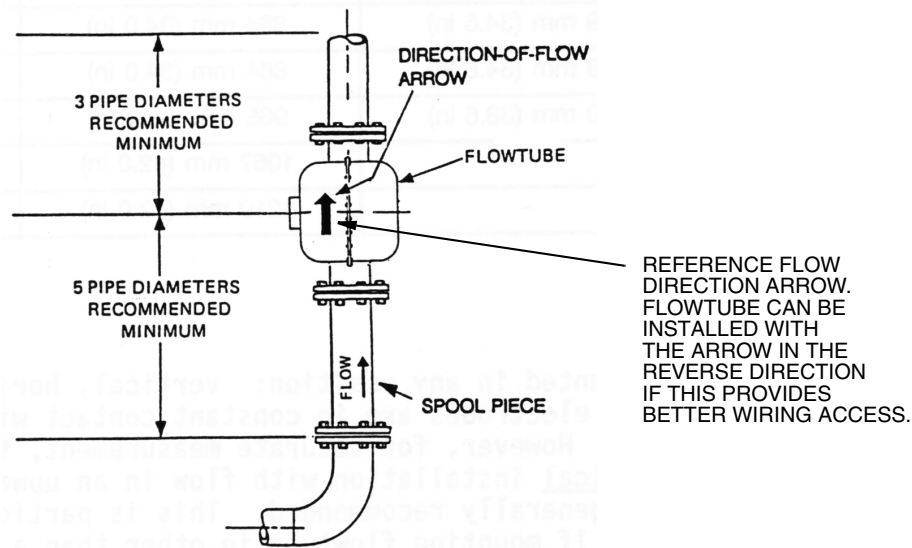

Figure 6. Flanged Body Flowmeter Mounted Vertically
- ◆ The magnetic flowtube must be installed so that it remains full of liquid during operation. An example of good orientation of the flowtube is in a vertical pipeline with flow in an upward direction, as shown in Figure 6.
- ◆ The flowtube should have straight, unobstructed piping for a distance of five pipe diameters (5 PDs) upstream and 3 PDs downstream (measured from the center of the flowtube) to ensure optimum performance (see Figure 6). Adjacent process piping should have the same diameter or be slightly larger than the flowtube.
- ◆ Figure 6 also shows a flow direction arrow. However, the tube can be installed in the reverse direction if this orientation provides better wiring access to the connection box (tube performance is the same in both directions). If you do install the tube in the reverse direction, then configure the transmitter flow direction parameter for reverse flow, or reverse the polarity of the electrode wires.